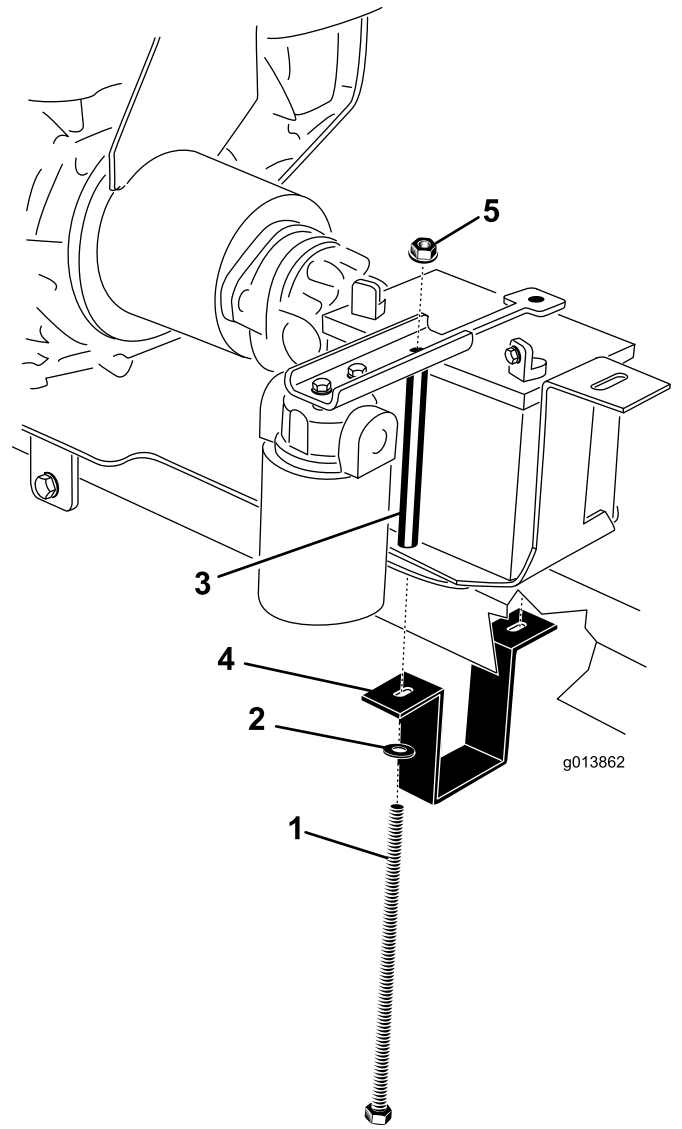

Figure 8
- 2. Mounting bolts (2)
21. Adjust the engine mount bracket so that it is tight to the hitch. Fully tighten the two bolts securing the engine mount brackets to the engine mounting plate (Figure 8).
22. Check that the engine mounting plate is level and fully tighten the (2) 1/2 x 5 inch bolts through the engine mount bracket lower holes.
23. Place the battery onto the battery tray, positioning the terminals as shown in Figure 8.
24. Position the battery hold down on the battery (Figure 8).
25. Hold the battery mount strap around the underside of the hitch tube (Figure 8).
26. On the right side, install a battery bolt through the washer, battery mount strap, engine mount plate, battery tray and hold down. Loosely install a flange nut (Figure 8).
27. On the left side, install a battery bolt through the washer, battery mount strap, engine mount plate, battery tray, battery bolt tube, and hold down. Loosely install a flange nut (Figure 8).